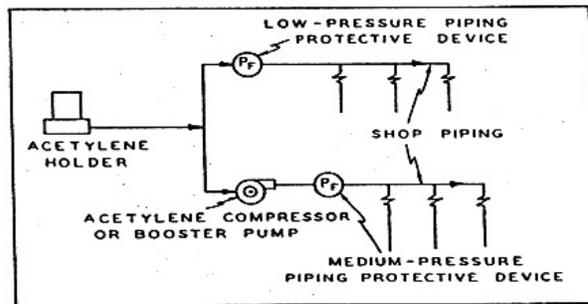

Figure 1
- (iii) Locate the medium-pressure protective device between the compressor or booster pump and the shop piping (see Figure 1).